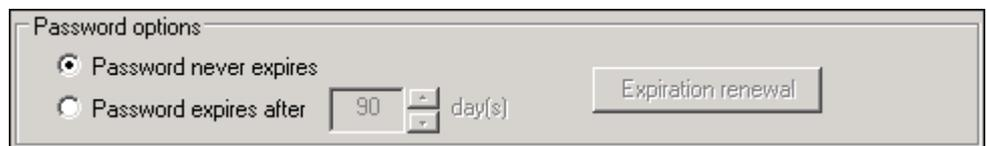

Fig. 65 Password options group field on the *User management* tab
2. Click the **Password expires after** radio button (see "Fig. 65", page 81).
2. Click **Expiration renewal** (see "Fig. 65", page 81).
2. Click the **Password never expires** radio button (see "Fig. 65 ", page 81).